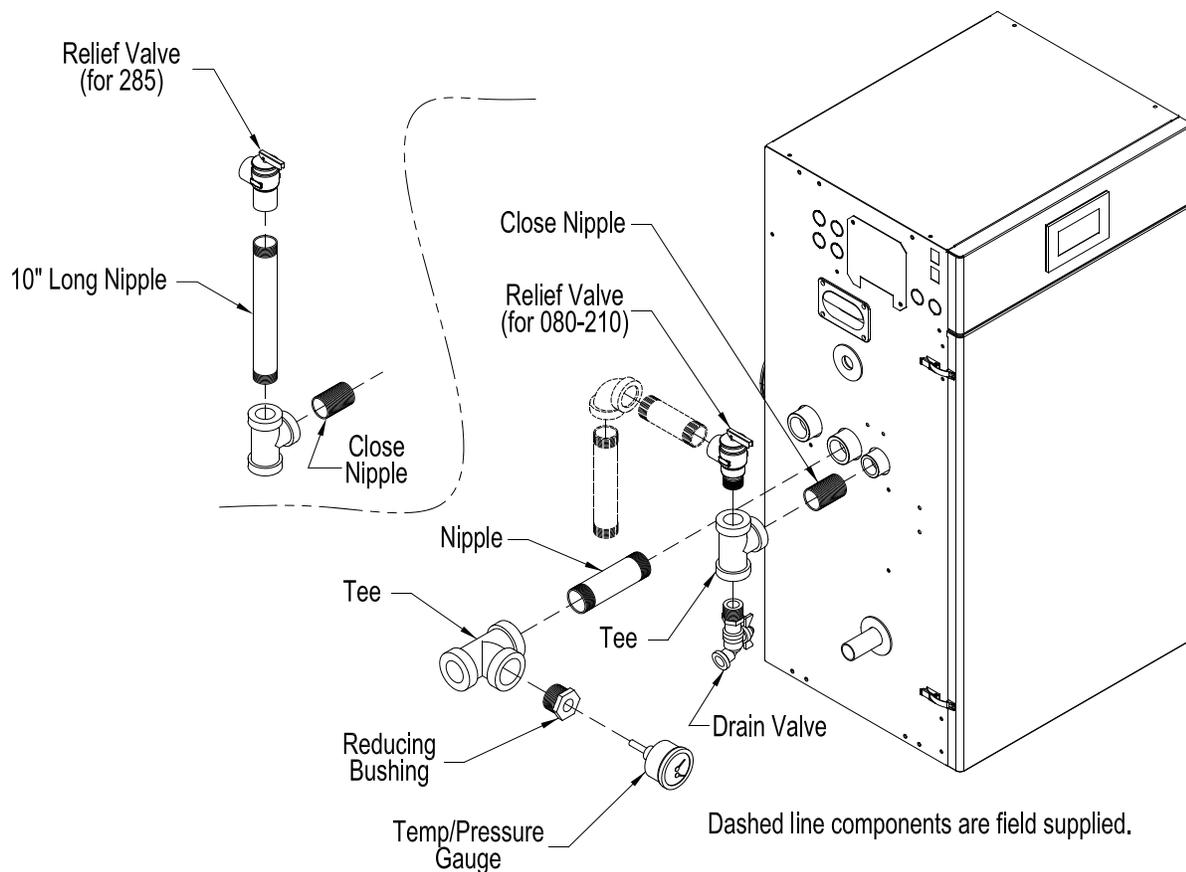

Figure 6-1: Factory Supplied Piping and Trim Installation
Alpine boilers have factory supplied Miscellaneous Part Carton (P/N 102942-01 – ALP080B through ALP210B; 102942-02 or 103676-01 – ALP285B), which includes supply piping components, gas piping components, Temperature & Pressure Gauge, Pressure Relief Valve and Drain Valve. See Figure 6-1 "Factory Supplied Piping and Trim Installation".
1. Safety Relief Valve (Required) - The relief valve is packaged loose with boiler and must be installed in the location shown in Figure 6-1 "Factory Supplied Piping and Trim Installation". The relief valve must be installed with spindle in vertical position. Installation of the relief valve must comply with ASME Boiler and Pressure Vessel Code, Section IV. The standard factory shipped relief valve is rated for 30 PSI maximum working pressure for ALP080B through ALP285B. Optional 50 PSI, 80 PSI and 100 PSI maximum working pressure rated relief valves are available. If the valve is to be replaced, the replacement valve must have a relief capacity equal or exceeding the boiler DOE Heating Capacity (models ALP080B through ALP285B). Pipe the relief valve discharge to a location where hot water or steam will not create hazard or property damage if the valve opens. The end of the discharge pipe must terminate in an unthreaded pipe. If the relief valve is not piped to a drain, it must terminate at least 6" above the floor. Do not run relief valve discharge piping through an area prone to freezing. The termination of discharge piping must be in an area where it will not become plugged by debris.
10. Drain Valve (Required) – Drain valve is packaged loose with boiler and must be installed in the location shown in Figure 6-1 “Factory Supplied Piping and Trim Installation”.